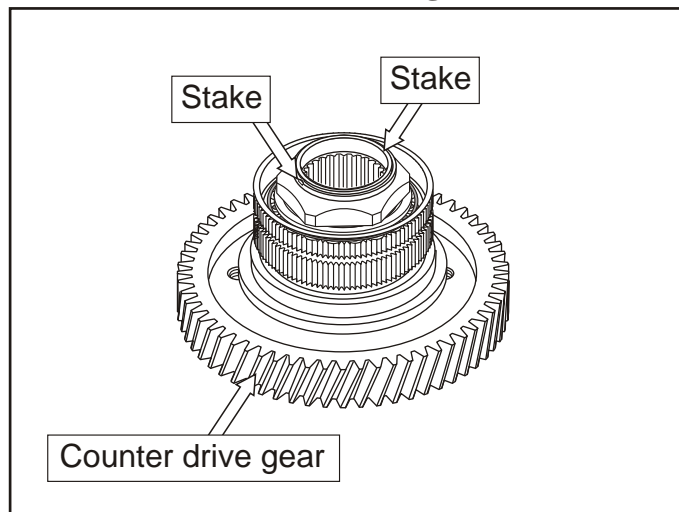
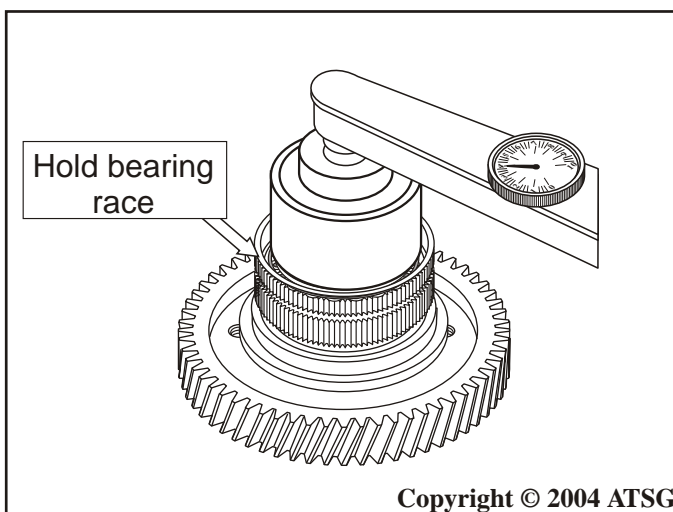

Figure 186
Figure 195
- 130. Using a hammer and punch remove the stakes on the lock nut. Place the Counter drive gear in a suitable holding fixture or vice and remove the 60mm nut. See Figure 186.
139. Place the counter drive gear into a suitable holding fixture or vice and tighten the lock nut down until turning torque is approximately 3-7 in.lb. See Figure 195. Refer to Figure 186 and stake the lock nut in two places.